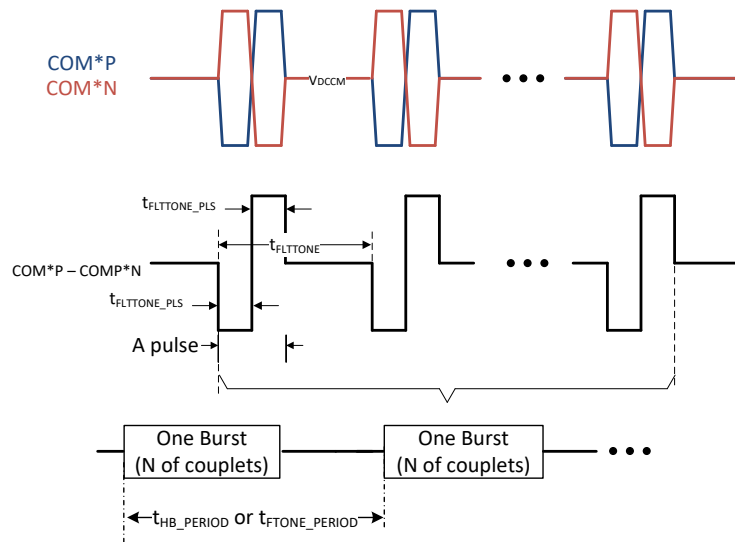
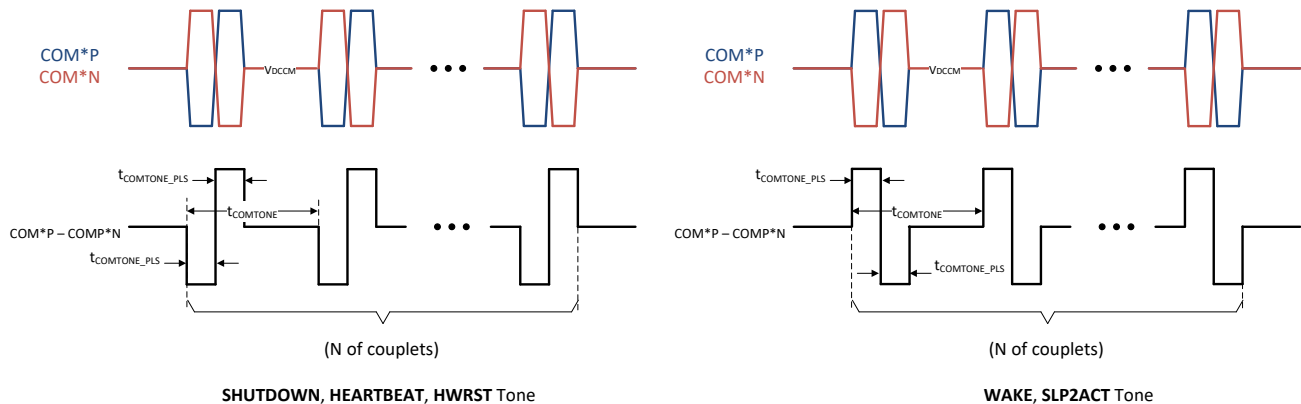

图 7-21. FAULT Tone and HEARTBEAT Tone Definition
图 7-22. SHUTDOWN, HEARTBEAT, HWRST, SLP2ACT Tone Definition
Other than data, certain information is transmitted using tone: signals to change power state of stack device (SLP2ACT tone, WAKE tone, SHUTDOWN tone, HWRST tone), signals related to faults (FAULT tone and HEARTBEAT tone). The definition of each tone is defined in 图 7-22 and 图 7-21.
表 7-9. Auto-Addressing with Figure 7-22(a), assume all devices are in SHUTDOWN
表 7-9. Auto-Addressing with Figure 7-22(a), assume all devices are in SHUTDOWN (continued)
表 7-10. Auto-Addressing Figure 7-22(b), assume all devices are in SHUTDOWN
**表 7-10. Auto-Addressing Figure 7-22(b), assume all devices are in SHUTDOWN (continued)**
Both the Heartbeat and Fault Tone are a type of tone similar to the communication. One main difference is a communication tone only transmits with a single burst of couplets, while Heartbeat and Fault Tones are sent with a burst of couplets periodically. See 图 7-21 for details.